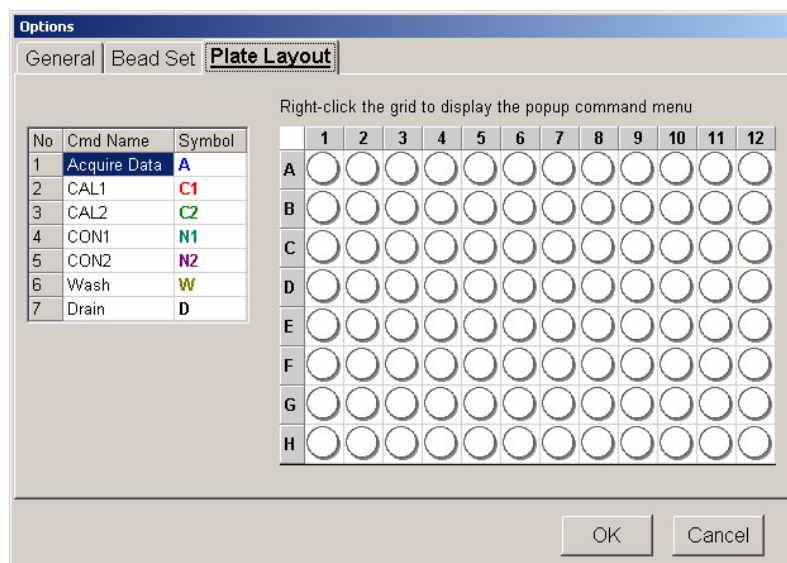

Figure 5-58 Plate Layout Tab
- Click the **Plate Layout** tab. See Figure 5-58. On this tab you define commands for the desired wells on the plate. You can define commands that apply to one or more wells, one or more rows of wells, or one or more columns of wells. You can define on-plate or off-plate commands.